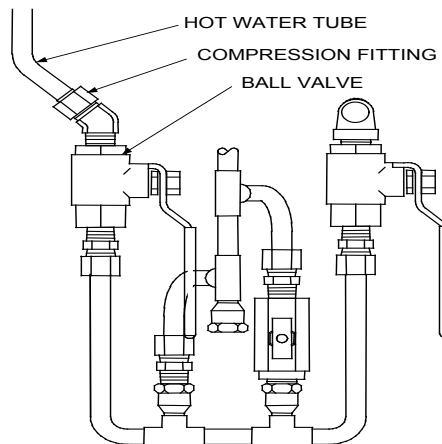

Figure 6.7
14. Remove the ball valve connected to the hot water tube coming from the top of the shell by loosening the compression fitting securing it to the hot water tube, (See Fig. 6.7).